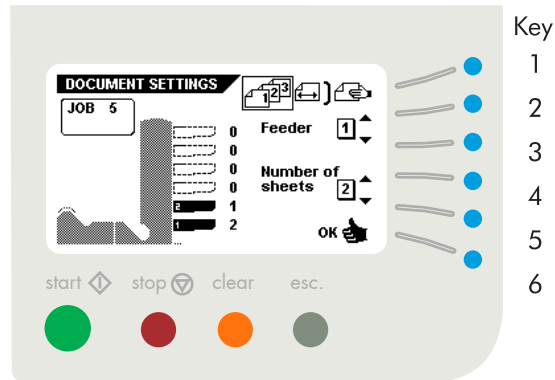

Fig. 38
- go to the envelope with closed flap screen (key 1).
- confirm the settings by pressing “OK” (key 6) which will get you back to the “job settings” menu.
When the “document settings” menu is selected and key 3 is pressed in the “job settings” menu, the display shows the screen as shown in Fig. 38. The following choices are available, by pressing key 1:
When number of sheets is selected the following choices are available (see fig. 38):